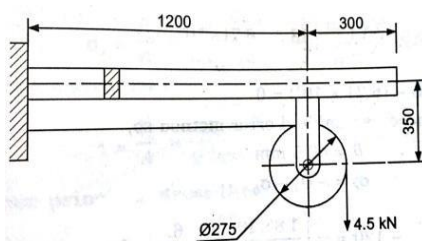

Fig 1.2
- (c) A cantilever beam of rectangular cross section is to be used to support a pulley as shown in figure 1.2. The tension in the wire rope is 4.5 kN . If the ratio of depth to width of cross section is 2.5. Determine the dimension of beam cross section. The material has been allowable tensile stress is 100 MPa & Compressive stress is 120 MPa. **07**